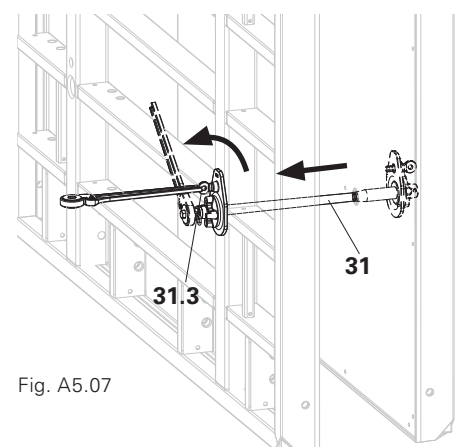

Fig. A5.07
- Release ring bolt (31.3) using the Tie Rod Spanner or scaffold ratchet (57).
- Screw out MX 18 Tie (31) with the Tie Rod Spanner. (Fig. A5.07)
- Only use a Tie Rod Spanner (40) or scaffold ratchet (57).